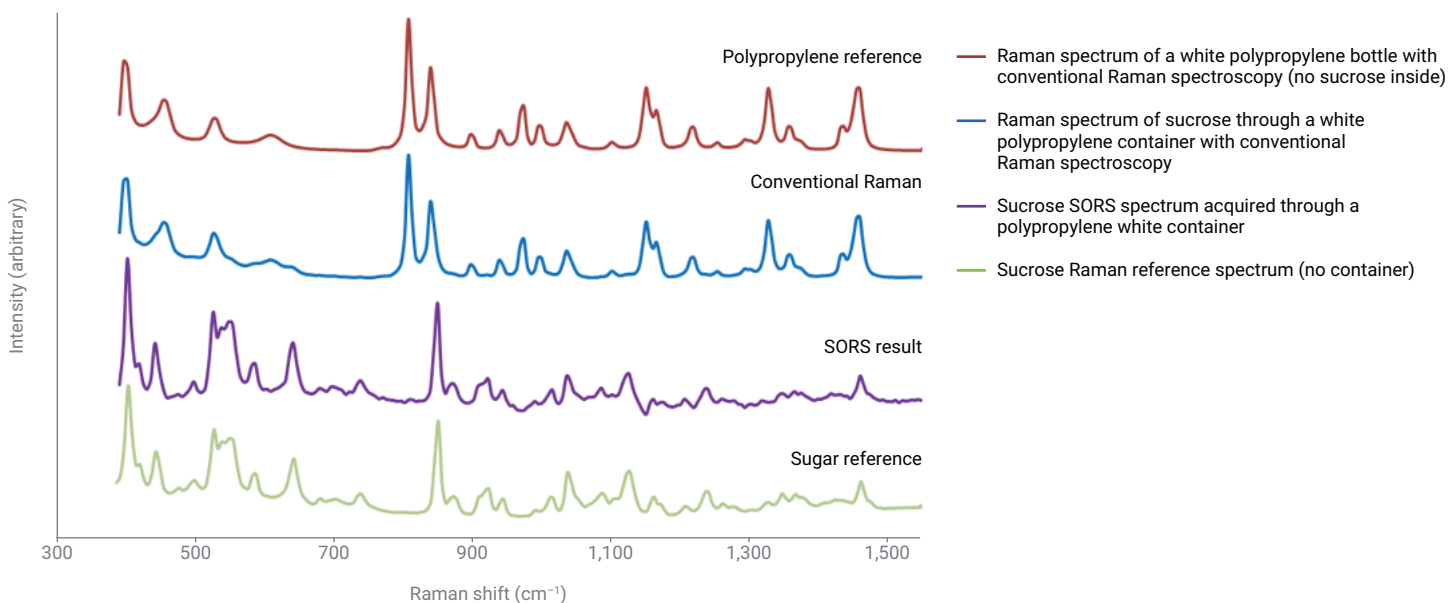

Figure 2. Overlay of SORS and conventional Raman spectra for the analysis of sucrose through a white polypropylene container.
Figure 2 shows the measurement of sucrose through a 1.5 mm thick polypropylene (PP) container using conventional Raman and SORS. The two spectra obtained using conventional Raman (A and B) show that the technique was unable to measure the sucrose due to the non-transparency and fluorescence from the PP packaging. In contrast, SORS produces a high-quality spectrum of sucrose through several millimeters of opaque plastic, as shown by the clear match of the sample spectrum (C) with the library reference spectrum (D).